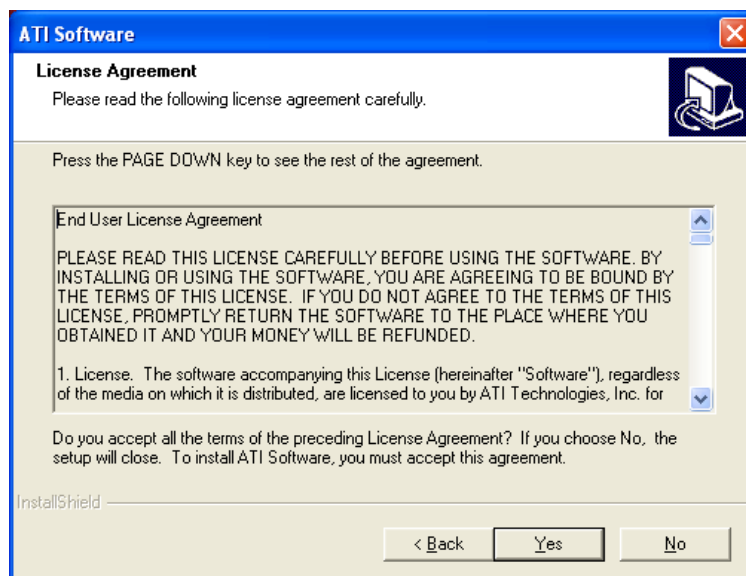

Figure 7-9: Chipset Driver Readme File Information
Step 11: The License agreement file in Figure 7-9 appears.